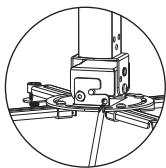

figure 10
1. Loosen the positioning screws (front and back) for adjusting the angle, and then rotate the screwdriver for fine turning to the required angle as figure 10.